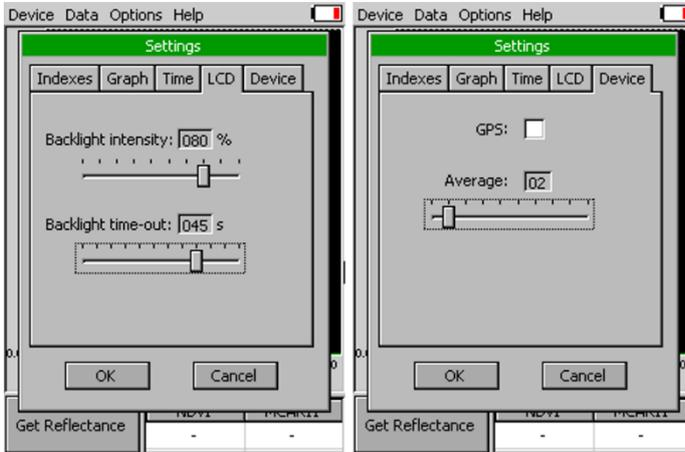

Fig. 10 Settings – LCD and Device
- **LCD** – is used to adjust LCD display control settings (Fig. 10).
- Average – Average function is used for adjusting the number of scans for each reading. Averaging of more scans results in a higher signal-to-noise ratio but increases the time required for each reading that appears on the screen. Move slider to set the number of measurements to be acquired for averaged values (Fig. 10). Data are affected.
- GPS – enables the GPS module (Fig. 10). The GPS coordinates cannot be displayed at the device display, but they are exported together with data and visualized in SpectraPen software.